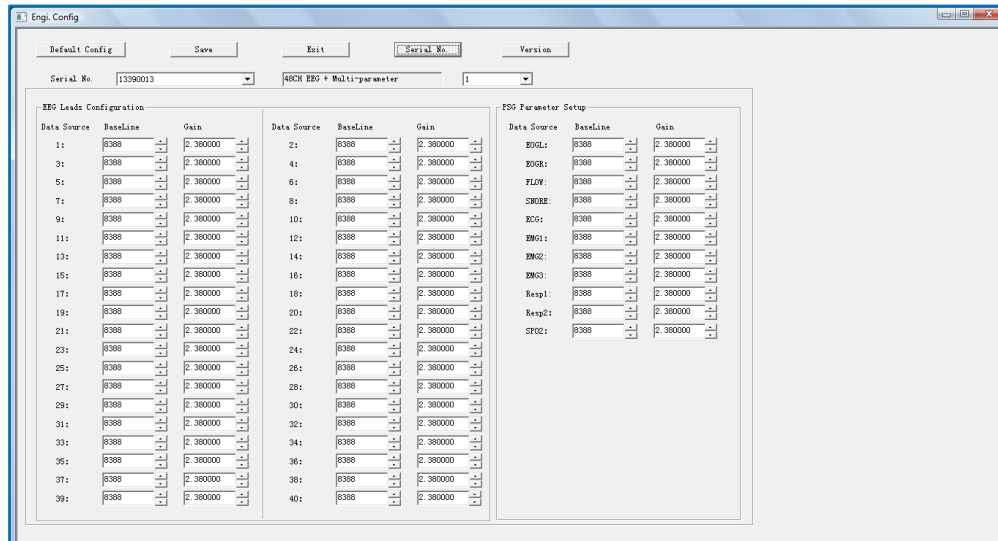

Fig 2-4 Engineering Configuration
- 3 Click "Config" button at the top right corner, and a dialog asking for password will appear. Input the password “*ns201508*”, Single-click "OK" button to enter the Engineering Configuration interface as shown in Fig 2-4.